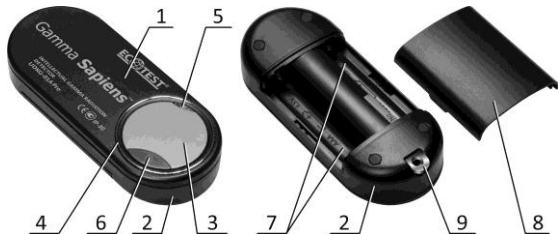

Figure 1 – UDKG-01APro “Gamma Sapiens” intellectual gamma radiation detector
The housing (Figure 1, 2) consists of the front (1) and the back (2) covers.